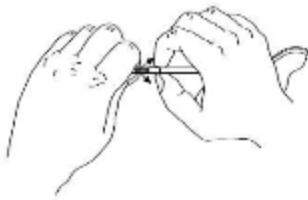

Figure 1
3. Break connector frangible (blue) by grasping the tubing above the top of the frangible and pulling forward and backward until the frangible separates from base. See Figures 1 and 2.